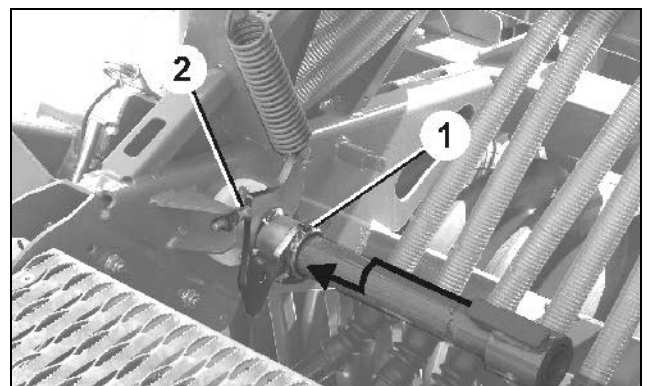

Fig. 26
- Lift the star wheel and completely pull outwards. **Ensure that the star wheel catches on the catching unit (Fig. 26/1)!**
Turning the bolt (Fig. 26/2) allows the max. working depth setting of the star wheel. After setting secure the bolt.